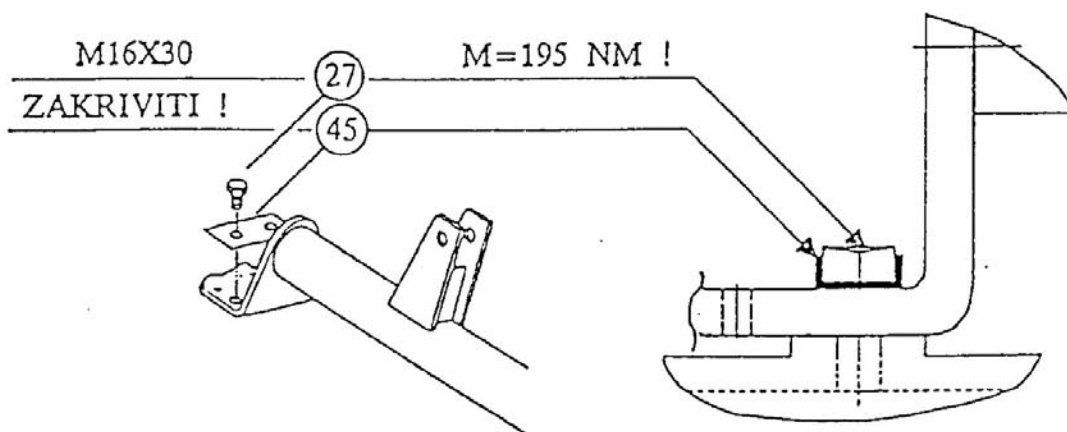

Fig. 8
- When fitting the hitch frame on the tedder's housing, fully tighten the M16x30 bolt and for extra security bend up the extending edges of the tab washers against the bolt head – see Fig. 8.